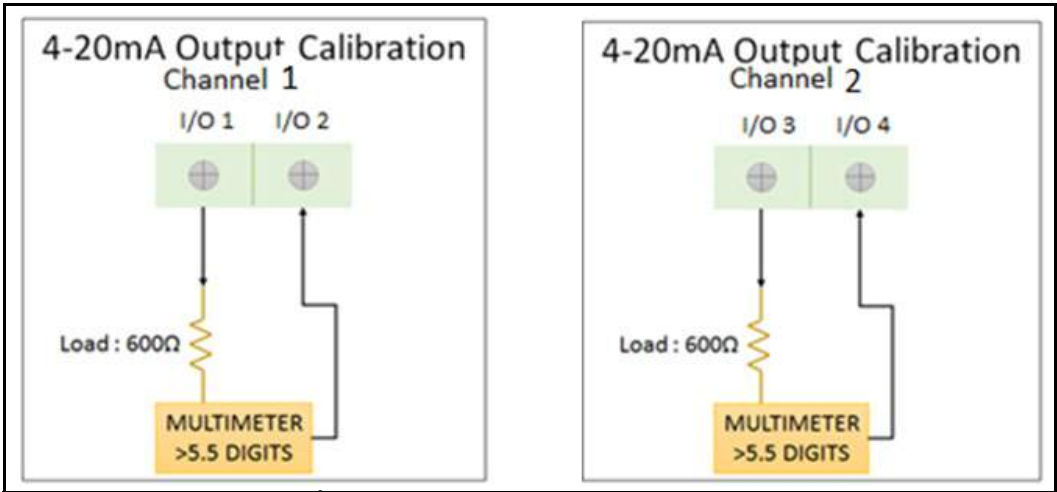

Figure 30: Optional I/O Analog Output Channel 1 and Channel 2 connections
1. Connect the Analog Output as in Figure 30.